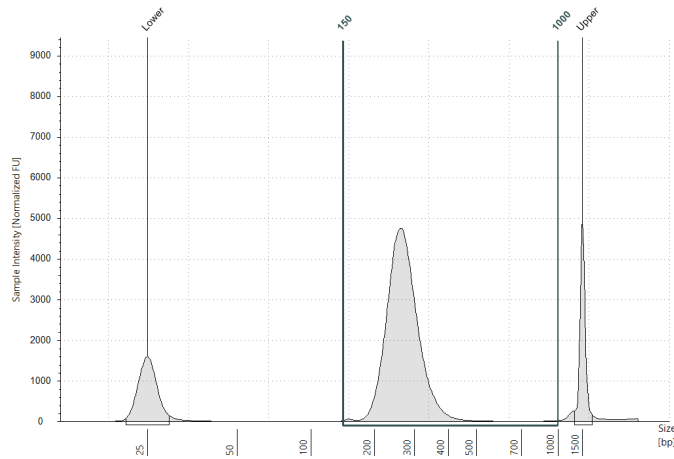
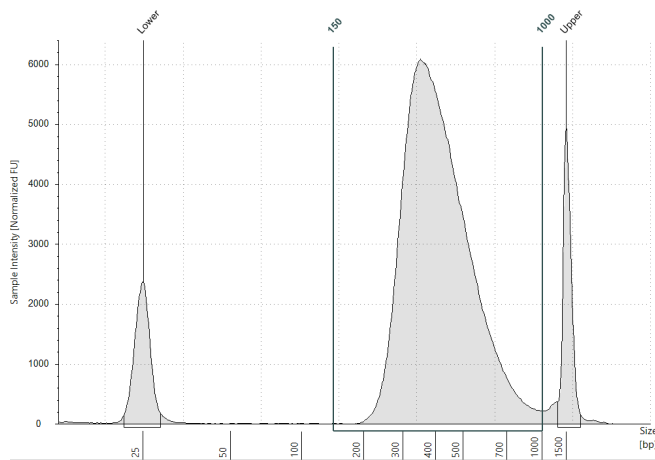

Figure 10 Pre-capture library prepared from an FFPE gDNA sample analyzed using a D1000 ScreenTape assay.
Figure 11 Pre-capture library prepared from a high-quality gDNA sample analyzed using a D1000 ScreenTape assay.
- 17** Using the 150 bp to 1000 bp region of the electropherogram, verify that the electropherogram shows the expected DNA fragment size peak position (see Table 48 for guidelines). Representative electropherograms are shown in Figure 10 and Figure 11 to illustrate typical results
Observation of a low molecular weight peak, in addition to the expected library fragment peak, indicates the presence of adaptor-dimers in the library. It is acceptable to proceed to target enrichment with library samples for which adaptor-dimers are observed in the electropherogram at low abundance, as shown in Figure 10. See Troubleshooting information on page 178 for additional considerations.
Using manual preparation of the analytical sample plate, you can analyze the DNA samples on an Agilent 5200 Fragment Analyzer or Agilent 4200/4150 TapeStation. Electropherograms obtained using one of these other analysis platforms are expected to show fragment size profiles similar to those shown for the Agilent 4200 TapeStation (see Figure 10 and Figure 11). Verify that the electropherogram shows the expected DNA fragment size peak position (see Table 48 for guidelines). Table 49 includes links to assay instruction.